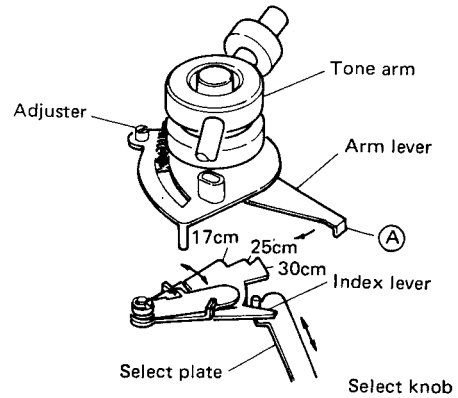

Fig. 10
The stylus is positioned at the beginning of a record according to the record size (17, 25, or 30cm) chosen with the Record Size Select knob. The stylus position is determined by one of three steps on the index lever shown in Fig. 10. Part (A) of the arm lever engages the corresponding part on the index lever.